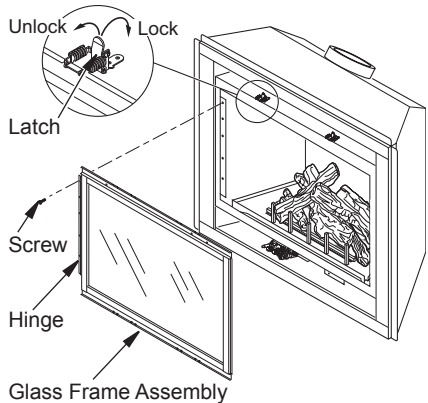

Figure 26 - Removing/Replacing Glass Door
2. Lift up on latches to unlock. There are two on top of firebox and two below firebox that hold glass door in place (see Figure 26).
3. While holding glass door to prevent it from falling and causing injury, remove 5 screws from hinge located on left side of door frame assembly (see Figure 26).
5. Close glass door frame. Lock latches by placing bar under tab on door and pushing down and back on latch (see Figure 26).